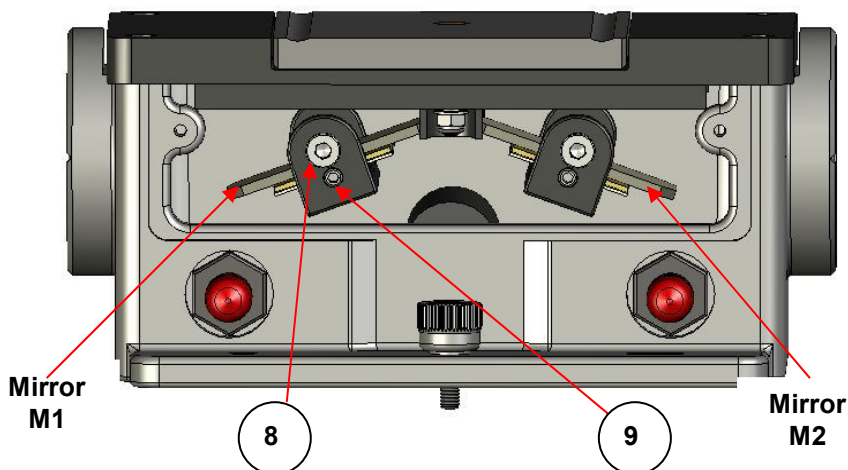

Figure 6. Front view of Silver Gate™ with a Flat ATR Crystal Top Plate and Optical Unit Cover removed to show Mirrors
The mirrors **M1** and **M2** in the optical unit can be adjusted for rotation and tilt. (See Figure 6.) The M4 cap head screw (**8**) allows for rotation of the mirror and the M4 x 12mm grub screw with a cone point (**9**) allows for tilt of the mirror, as fixed to its mirror carriage assembly.
3. Maximize the energy by adjusting the rotation and tilt movement screws (8) and (9) respectively of mirror **M1**. (See Figure 6.)
4. Repeat the rotation and tilt adjustments as in steps 2 – 4 until maximum transmission is achieved and then replace the front cover plate (6) and tighten the cover plate thumb screws (7).